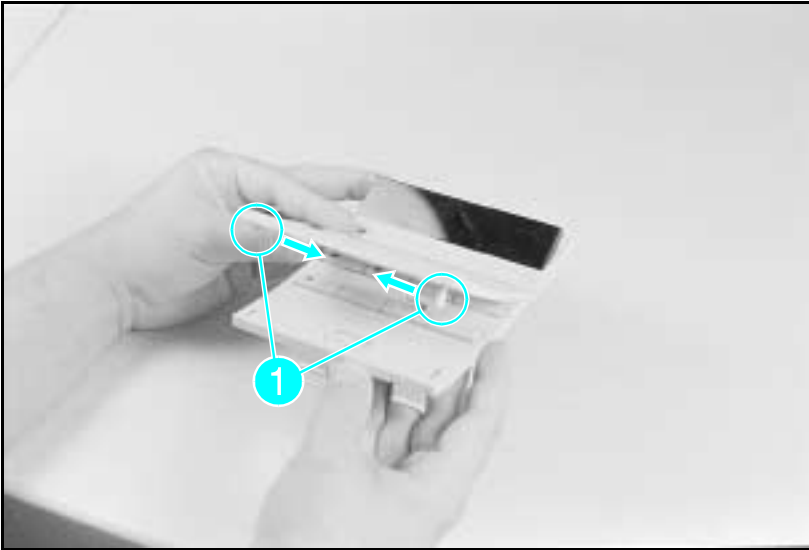

Figure 6-22 Changing the Control Panel Overlay
- 5** If you must replace the Control Panel Overlay, release the (2) retaining tabs from the Control Panel and separate the overlay from the Control Panel (see Figure 6-22, callout 1).
- 6** Squeeze the sides of the Control Panel Overlay to release the (2) tabs (see Figure 6-22, callout 1).